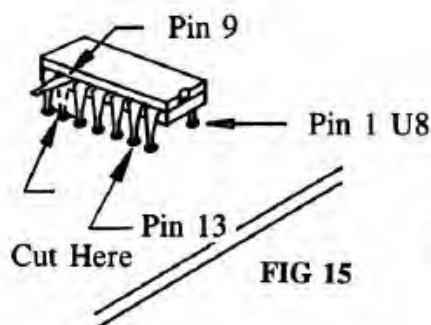

FIG 15
**Step 3** - Locate chip U8 on the circuit board. Refer to FIG 13 for the C-128 computer and FIG 14 for the 128D computer. For the C-128, cut pin 9 of U8 and for the 128D, cut pin 13 of U8 as close as possible to the circuit board and CAREFULLY bend the pin upward so that it is parallel to the circuit board. Refer to FIG 15.